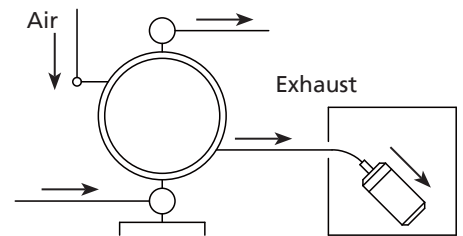

Figure 9
- Exhaust should be directed outside, not into the fluid in which the pump is submerged. For information on how to arrange the exhaust, see Note, page 14 – Arranging outside exhaust and Figure 9 below.